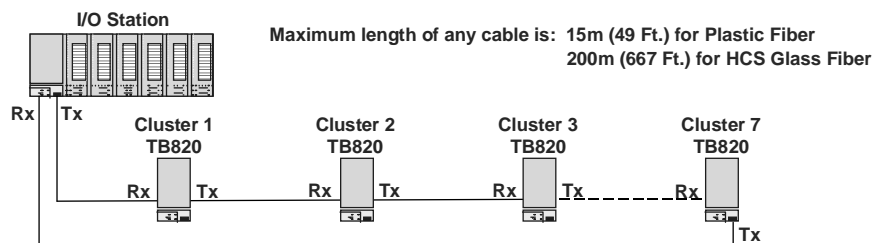

Figure 2-5. Optical Modulebus and I/O clusters, simplex communication
- simplex (ring) communication configuration. See Figure 2-5